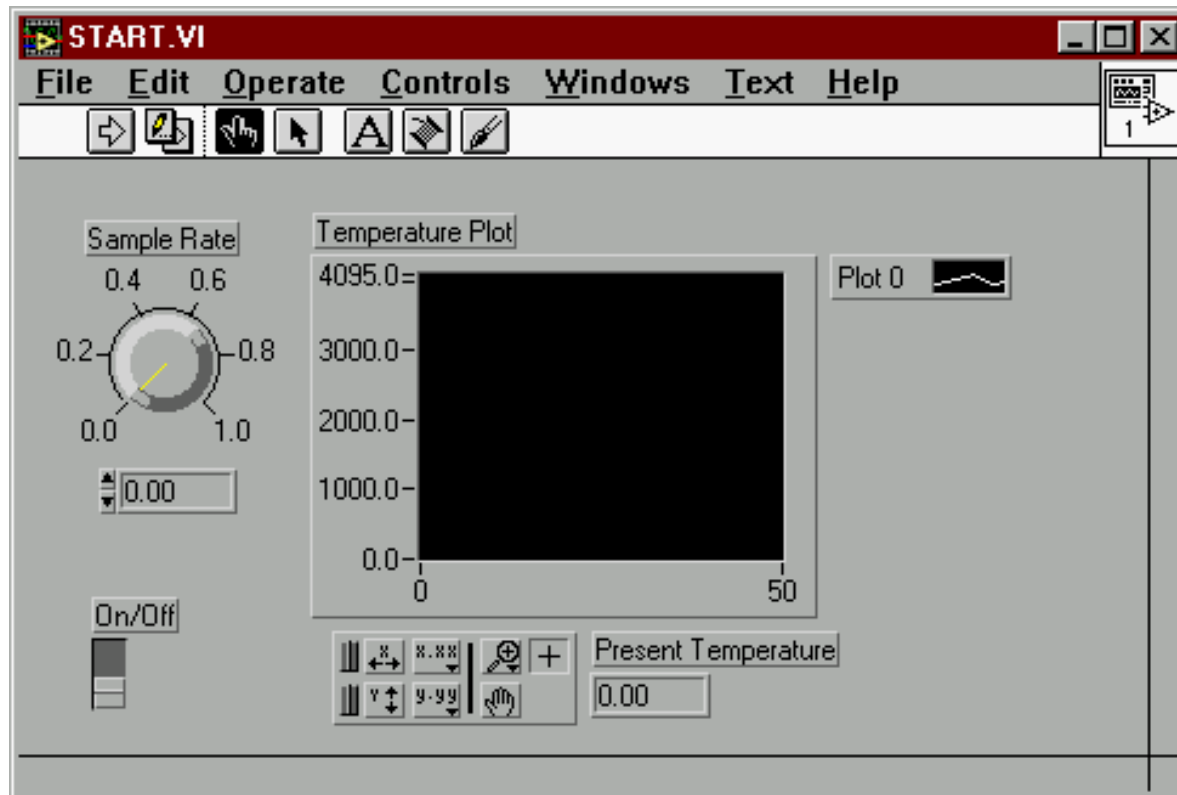

Figure 2 : Initial Panel Layout
- Arrange the items as shown in Figure 2 using the pointer to add labels by right clicking on each item and typing it in. Change the scale on the waveform chart vertical axis to 0 to 4095 using the hand icon.